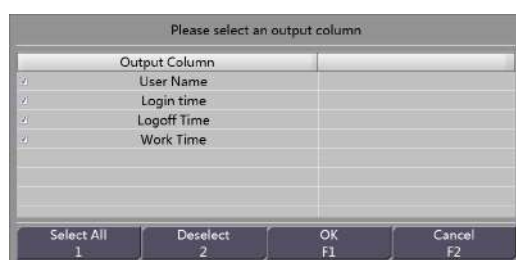

Figure 15-9 Login Information Export Interface
Step 3 Select records from the query result and click “Export” to export them, as shown in Figure 15-9.